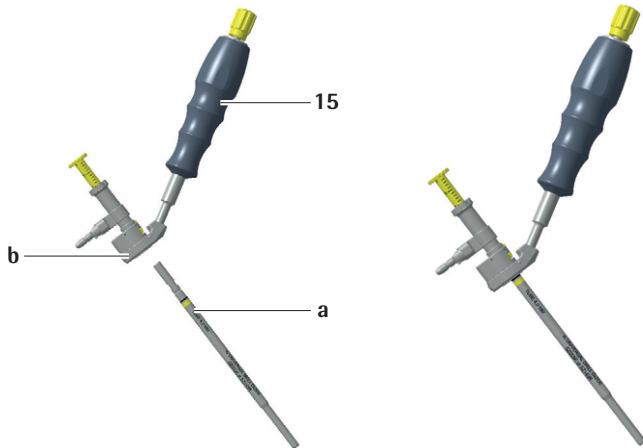

Fig. 6
- ▶ Attach the tube a to drill guide body b, see Fig. 6. The positive stop of the drills is color-coded to match the color of the screw heads: